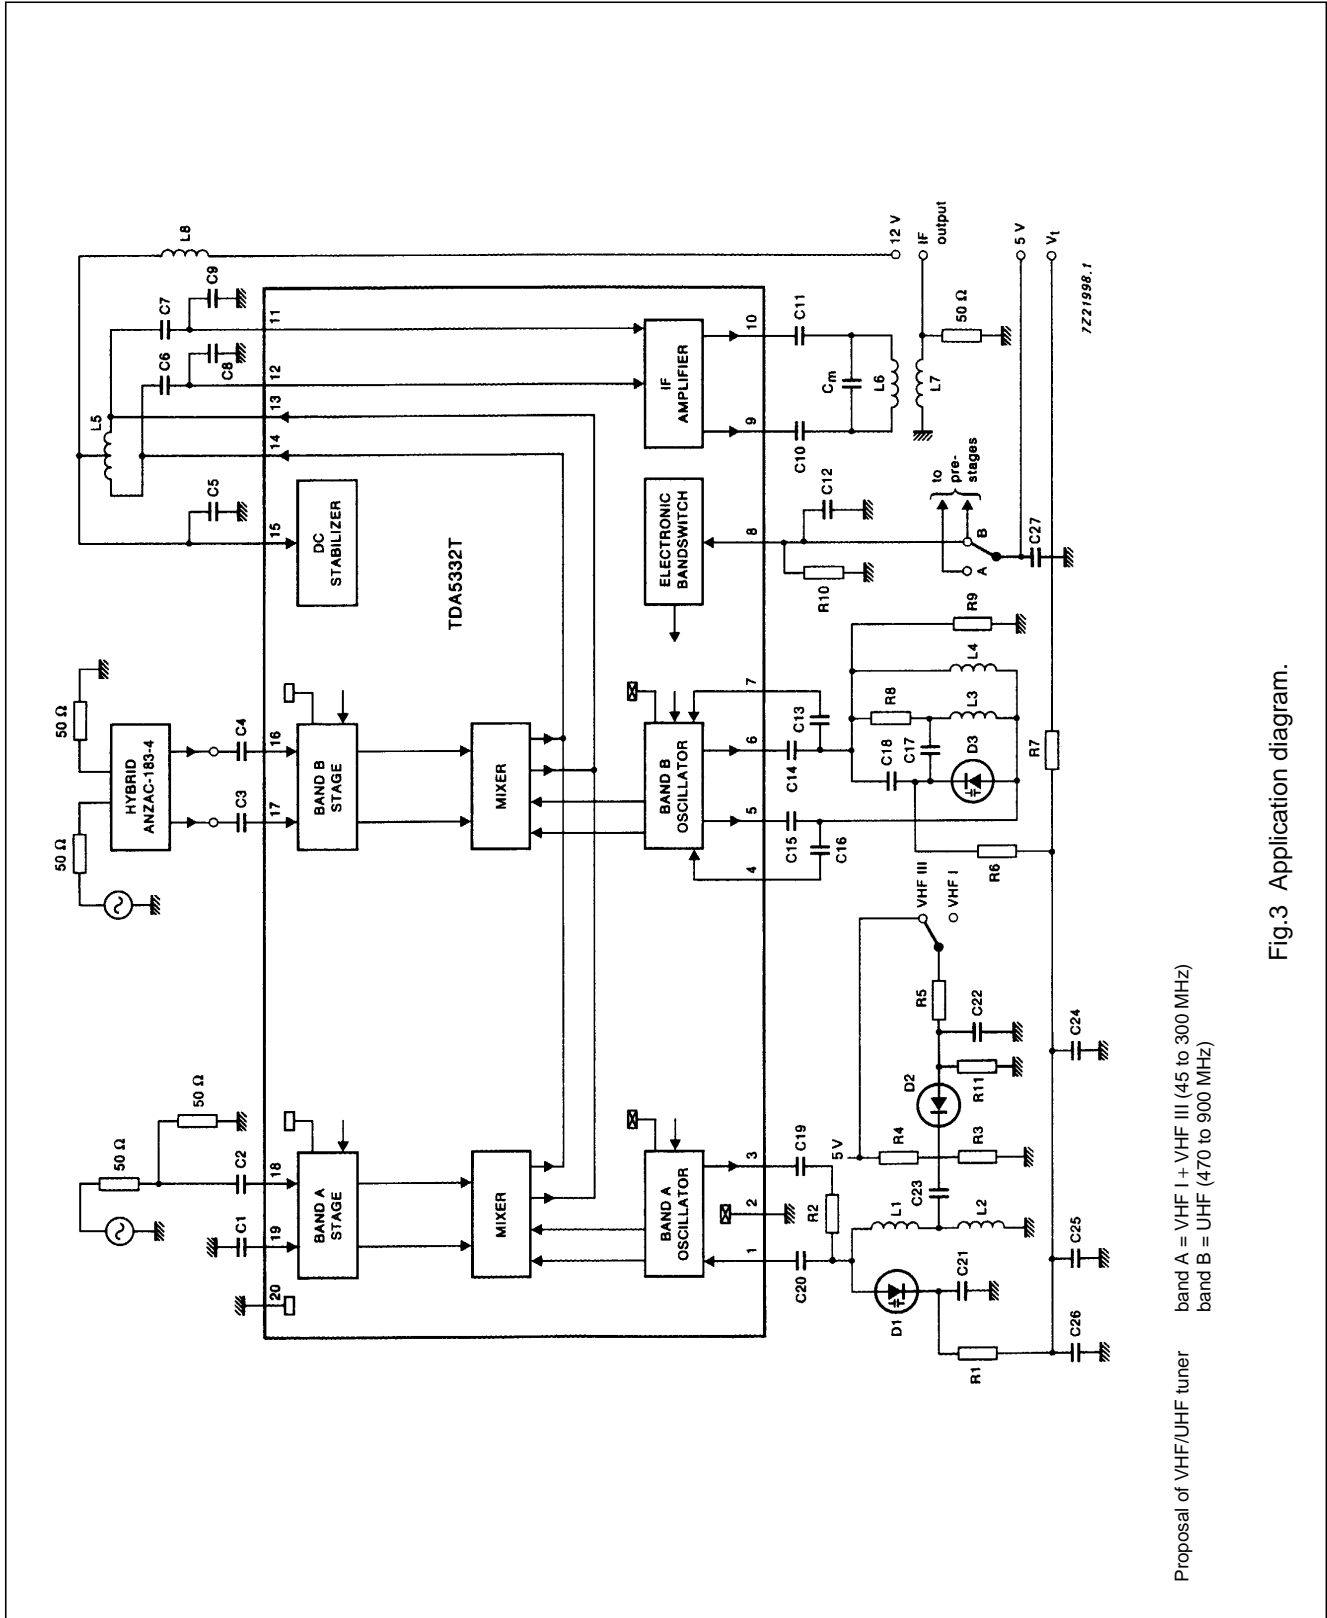

Fig.3 Application diagram.
$V_P = 12\text{ V}$ ;  $T_{amb} = 25\text{ °C}$ ; all voltages are referenced to ground (pins 2 and 20); measured in Fig.3; unless otherwise specified.
Band A mixer (including IF amplifier)	measured using circuit shown in Fig.3
- The gain is defined as the transducer gain (measured in Fig.3) plus the voltage transformation ratio of L6 to L7 (6:1, 16 dB).